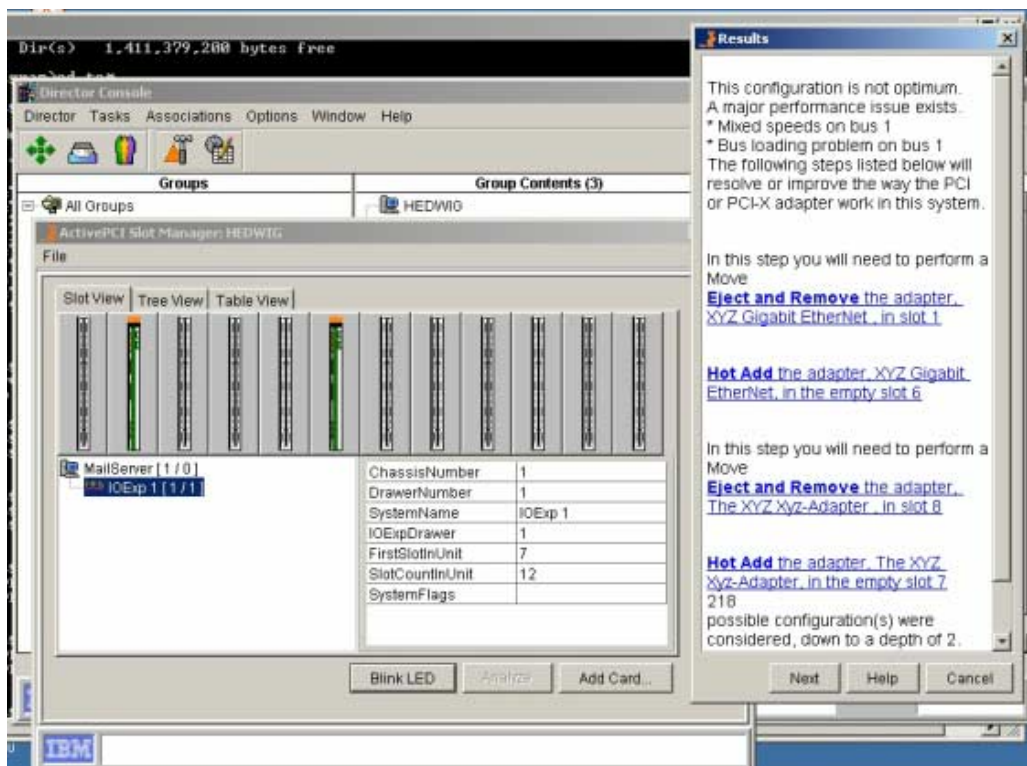

Figure 10. Active PCI Slot Manager
- **Active PCI Slot Manager.** Active PCI Slot Manager helps optimize I/O performance by offering guidance on the best slots in which to install PCI and PCI-X adapters. It also helps you decide whether adapters should go in the server or a remote I/O expansion unit. (Figure 10 shows how this tool—still in development—might look in the final version.)